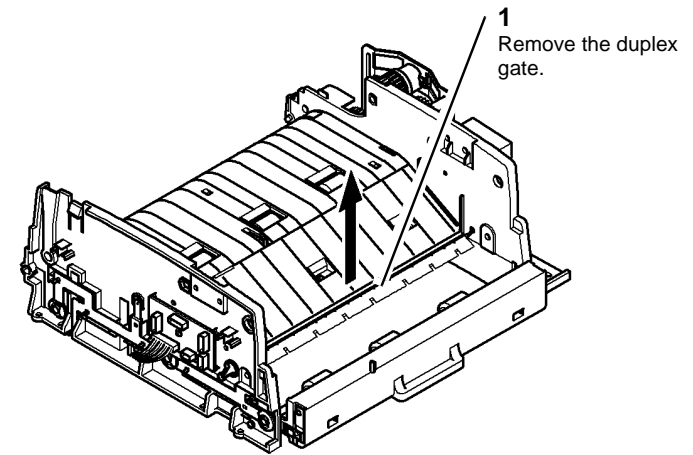

Figure 16 Duplex gate removal
17. Remove the duplex gate, Figure 16.